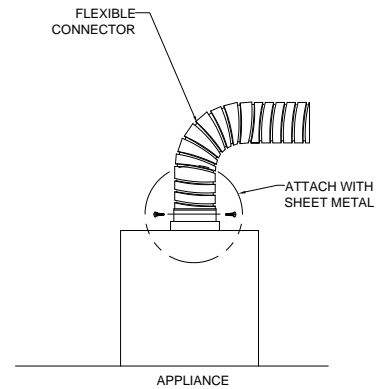

FIG. 6
5. Attach the inlet (bottom) end of the connector to the appliance or to any applicable B-Vent style appliance outlet fitting (See **FIG. 6**). Use sheet metal screws, as necessary to securely fasten the connector inlet fitting to the appliance or appliance outlet fitting